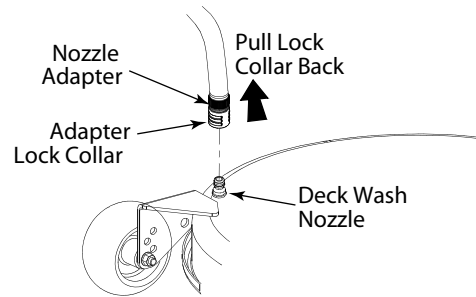

Figure 6-2
- Pull back the lock collar of the nozzle adapter and push the adapter onto the deck wash nozzle at the left end of the mower deck. Release the lock collar to lock the adapter on the nozzle. Refer to Figure 6-2.